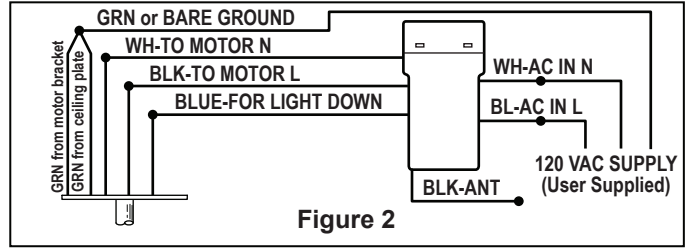

Figure 2
It is critical that the outlet box and the screws are securely anchored to the building structure and capable of withstanding a load of at least 50 lbs. Failure to verify that the screws are properly installed could result in the fan falling. (Figure 2)
1. Securely attach the ceiling junction box **acceptable for ceiling support** into the building structure. (Figure 2)
- Connect wires as indicated: (Figure 2)